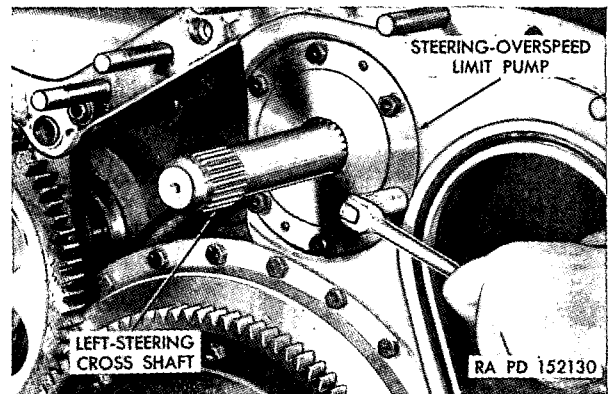

Figure 391. Installing steering-overspeed-limit-pump bolts.
- (9) Install the steering-overspeed-limit pump and gasket. Secure the pump with six $\frac{5}{16}$ -inch bolts (fig. 391).